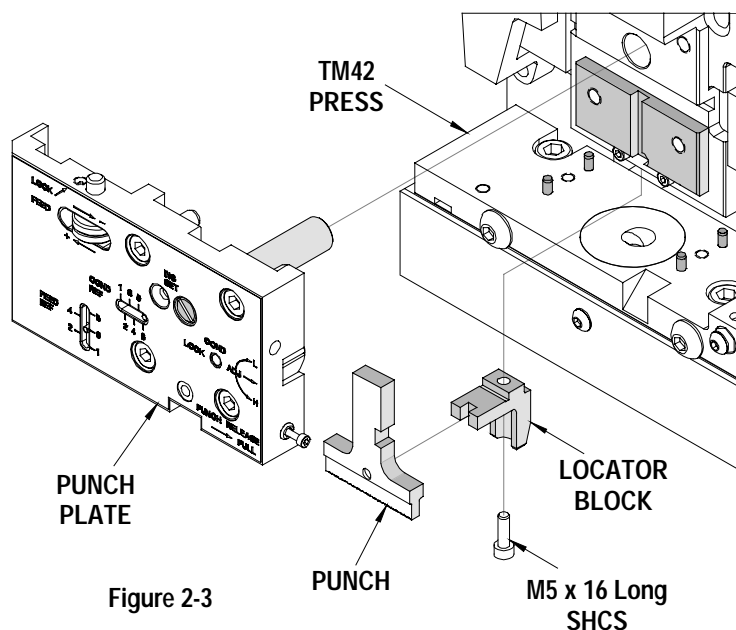

Figure 2-3
3. Install the termination punch 62201-8715 into the locator block on the ram. See Figure 2-3.